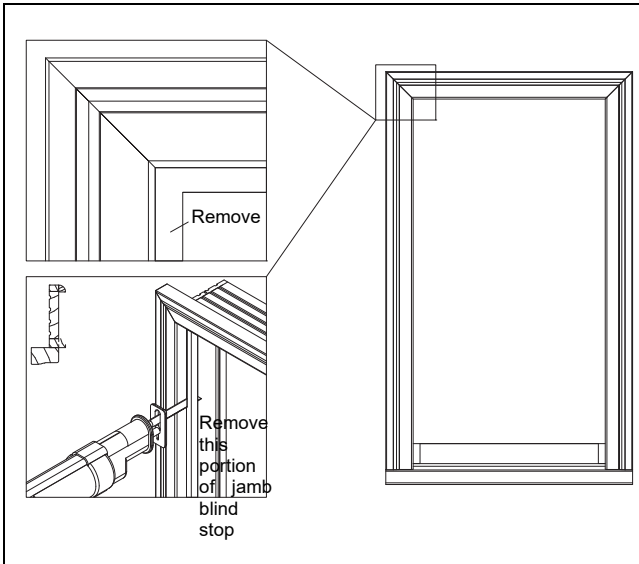

Figure 1
1. Using a reciprocating saw, remove the jamb blind stop by cutting it even with head jamb blind stop and flush with exterior casing and jamb frame. See figure 1.